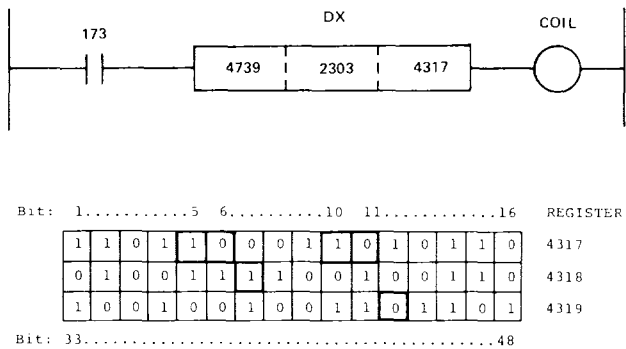

Figure 80. Sample Matrix Clear Line
The coil status prior to closure of the A element contact will be that of the bit to be operated on and, after closure of the A element contact, the coil will be OFF (since the bit is to be cleared). When utilized as a sense line, an input register can be placed in the D element, since no alteration of this register is required. If an input register is utilized in the D element, closure of the A element contact will have no effect on either the coil status or the matrix contents. The B element register refers just to itself, and the D element register to XX registers — the size of the matrix. As an example, refer to Figure 80.
If the A element contact is referenced to a null data line, an input that is not utilized, or to an AND or OR logic line (i.e., some reference that will never be energized), this function can be used as a sense line. If line 173 of Figure 80 is an OR logic line (DX line with a 21XX functional code), and register 4739 contains a 23, the coil will be ON and no clearing operation is possible; if register 4739 contains a 44, the coil will be OFF.
For example, assume the functional code of Figure 80 is 2403, line 173 is OFF, and register 4739 contains the value 6. Initially, the coil will be OFF reflecting the status of the referenced bit. When line 173 becomes valid, bit 6 in register 4317 will be set to one (1) and the coil energized, again reflecting the status of the bit. If the value in register 4739 is changed to 11, bit 11 in register 4317 will also be set to one (1).